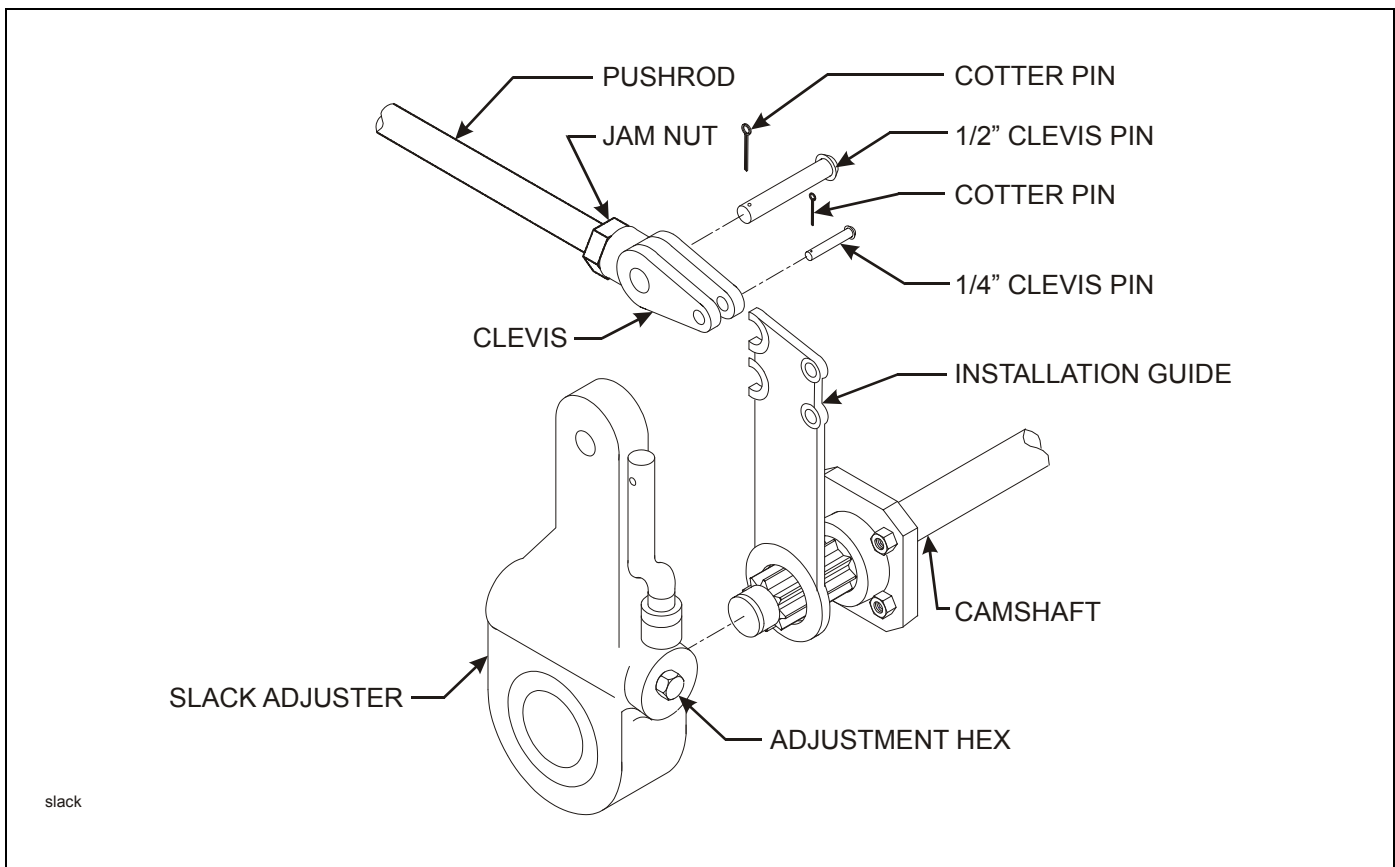

Figure 4-14: Slack Adjuster
4. Disconnect the slack adjuster from the connecting rod by removing the clevis pin (**See Figure 4-14.**)
4. Remount the brake chamber on the axle brackets and reconnect the air service hoses and the slack adjuster connecting rod (**See Figure 4-14.**)
2. Check that the push rod is fully retracted, apply air to release spring brake **(See Figure 4-14.)**
3. Remove the existing slack adjuster and clevis - **DO NOT REMOVE EXISTING JAM NUT (See Figure 4-14.)**